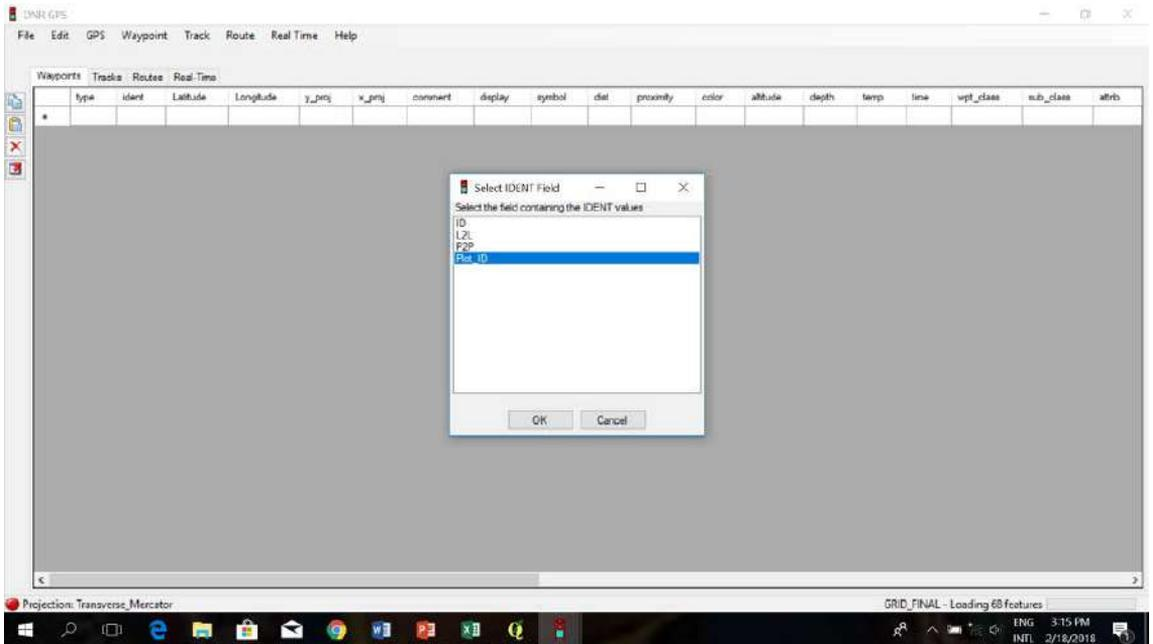

Figure 10h
- o A window will pop up where Plot ID needs to be selected and then click **OK** (Figure 10h).